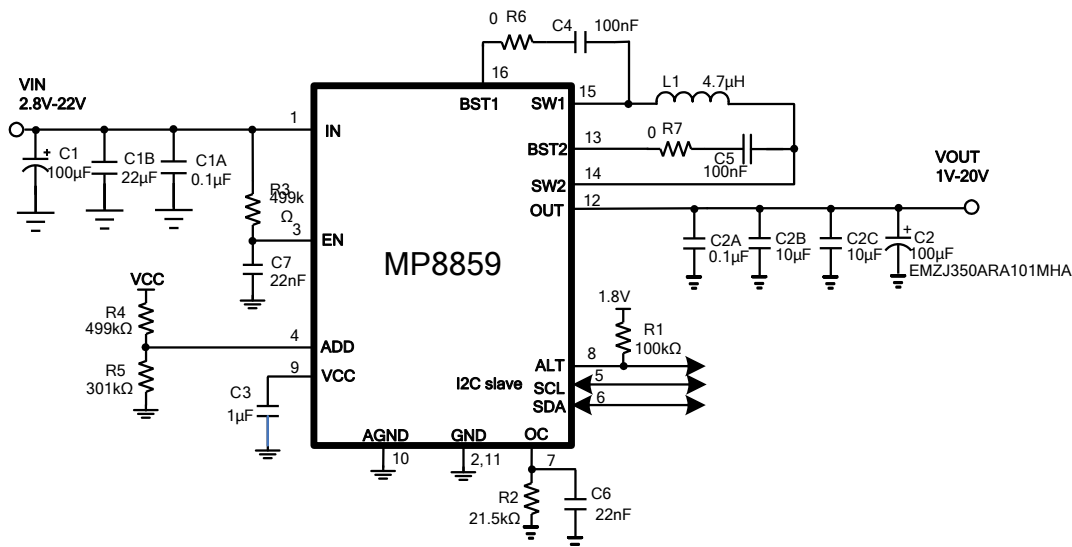

Figure 13: Typical Application Circuit for 1 - 20V_{OUT}
- 9) The recommended layout is based on the typical application circuits in Figure 13 and Figure 14.